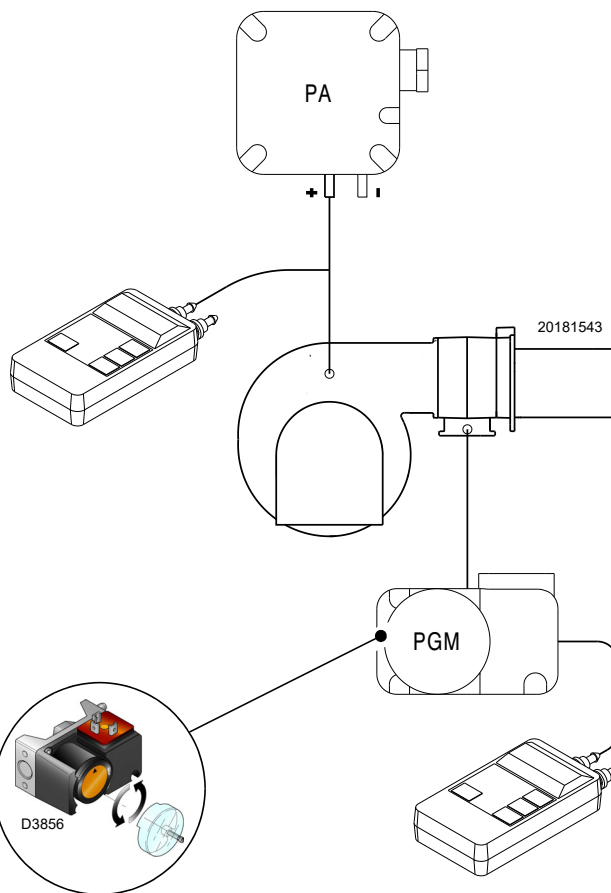

Fig. 40
- Adjust the maximum gas pressure switch (Fig. 40) to the end of the scale.
Adjust the maximum gas pressure switch (Fig. 40) after making all other burner adjustments with the maximum gas pressure switch set to the end of the scale.